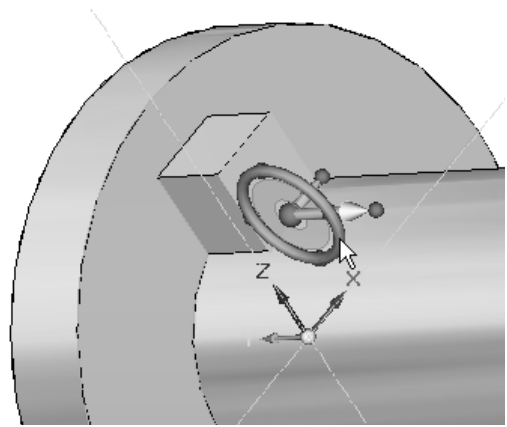

Figure 12-53 Placing the Extrude handle
3. Now, to create taper, select the back face of the rib; an Extrude handle is displayed. Move the Extrude handle to the bottom edge of the face, so that the Extrude handle is modified into a steering wheel, see Figure 12-53.